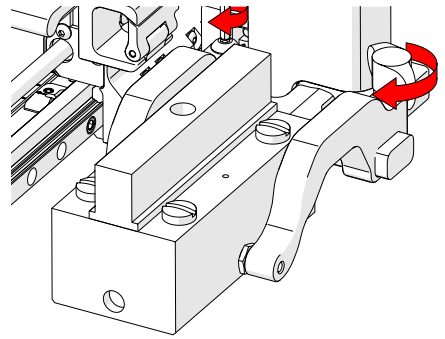

Fig. 40 - Pivot buttons
7. Tighten the probe holder adjustment knob and the arm clamp screw (Fig. 40) while ensuring the wedge remains centred with the yoke.